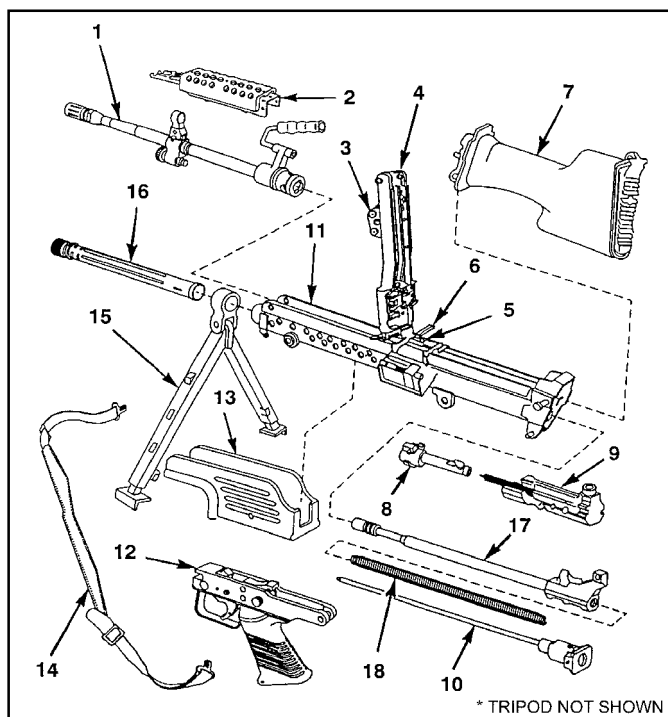
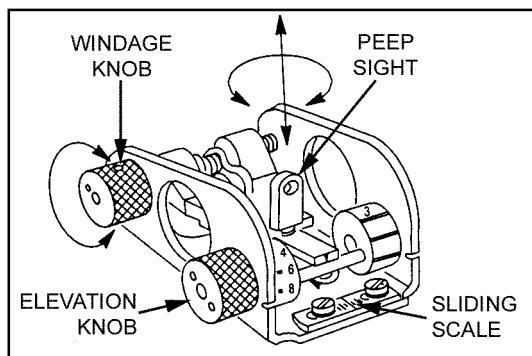

Figure 1-2. M249 machine gun components.
Figure 1-3. Sights.
The components of the M249 machine gun and their purposes are described in Table 1-2 and shown Figure 1-2. The item numbers in Table 1-2 correspond to the callout numbers in Figure 1-2. The sights and safety button are shown in Figures 1-3 and 1-4. (See Table 1-1 for general data.)
a. **Sights.** The M249 machine gun has a hooded and semifixed front sight (Figure 1-3). The rear sight assembly mounts on the top of the cover and feed mechanism assembly. The elevation knob drum has range settings from 300 meters to 1,000 meters. Range changes are made on the M249 machine gun sight by rotating the elevation knob to the desired range setting. Rotation of the rear sight aperture (peep sight) is used for fine changes in elevation or range adjustments, such as during zeroing. Each click of the peep sight. One click moves the sight 180 degrees, or one-half turn. This equals a one-half-mil change in elevation, which is .5 cm at 10 meters. The sight adjusts for windage